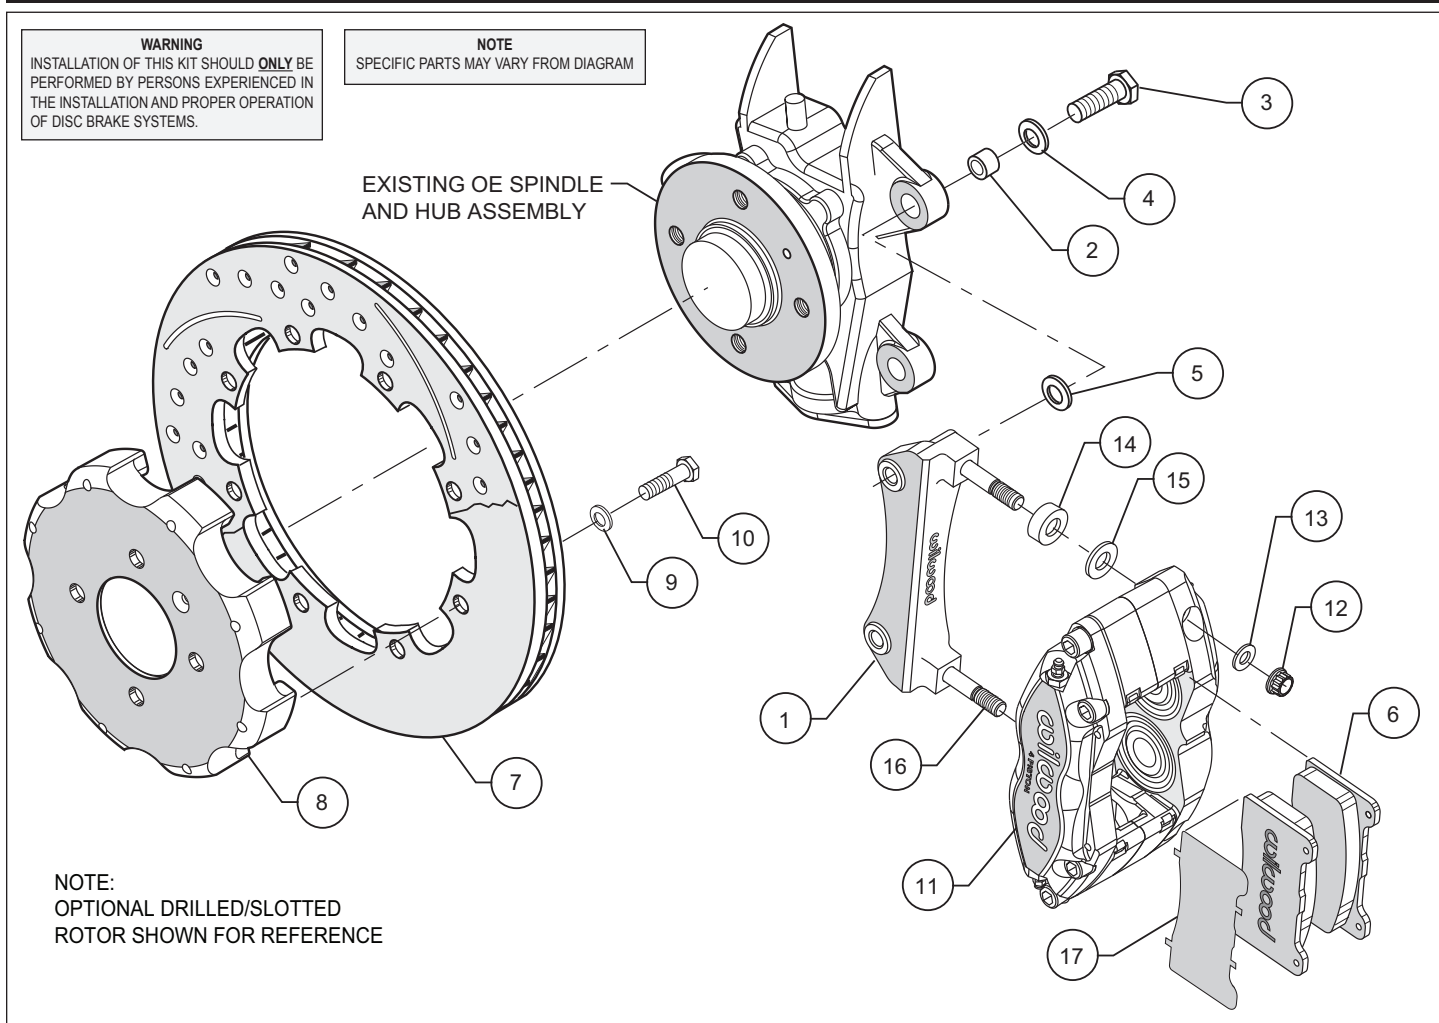
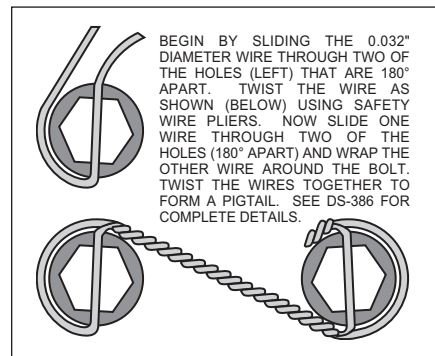

Figure 1. Typical Installation Configuration
Figure 3. Safety Wire Diagram
•Insert one sleeve (2) each into the holes on the top and bottom of the spindle “ears” where the OEM caliper bracket was removed. The caliper mounting bracket assembly (1) should be installed first with clean, dry threads on the mounting bolts. Install the bracket from the rear side of the spindle by sliding bolts (3) through flat washer (4). Place shim washer (5) between the bracket (1) and the spindle (see Figure 1). The bracket must tighten squarely against the side of the spindle body. Inspect for interference from casting irregularities, machining ridges, burrs, etc. Use one thin shim (5) between the bracket and spindle during initial trial fitting.
•With the larger I.D. side of the rotor (7) facing away from the hat (8), attach rotor (7) to hat (8) using washers (9) and bolts (10) as shown in Figure 1. Using an alternating sequence, remove bolts on at a time, apply red *Loctite*® 271 to the threads, and torque to 120-144 **in-lb**. Safety wire bolts (10) using standard 0.032 inch diameter stainless steel safety wire as shown in Figure 3. Please refer to Wilwood’s data sheet DS-386 (available at www.wilwood.com/Pdf/DataSheets/ds386.pdf) for complete safety wire installation instructions. Slide the rotor/hat assembly onto the axle hub. Install three wheel bolts (finger tighten) to keep the rotor/hat assembly in place while continuing with the installation.
•**NOTE:** Please reference the caution statement at the beginning of the assembly instructions. Install spacer (14) and one shim (15) over each pre-installed stud (16) on the radial mount bracket (1). Slide the caliper (11) in place over the studs and rotors and install the washer (13) and lock nut (12) to hold the caliper in place. Snug the lock nuts (12) and check that the rotor (7) is centered in the caliper (11). Add or subtract .016" shims (5) as necessary between the bracket (1) and the spindle to center the caliper (11).
•Remove the caliper quick-clip pad retainer from the caliper. Remove the protective material from the adhesive side of the anti-squeal shims (17) and place against the backing plate side of the brake pads (18) utilizing the contour of the backing plate as a guide. Secure material to backing plate by bending the four tabs over the edge of the backing plate. Slide the brake pads (18) with the shims into place. They should install easily without interference. Check that the outside radius of the brake pad is aligned with the outside diameter radius of the rotor face. Add or subtract shims (15) between the caliper and mount bracket to gain the proper alignment. Reinstall the quick-clip pad retainer.